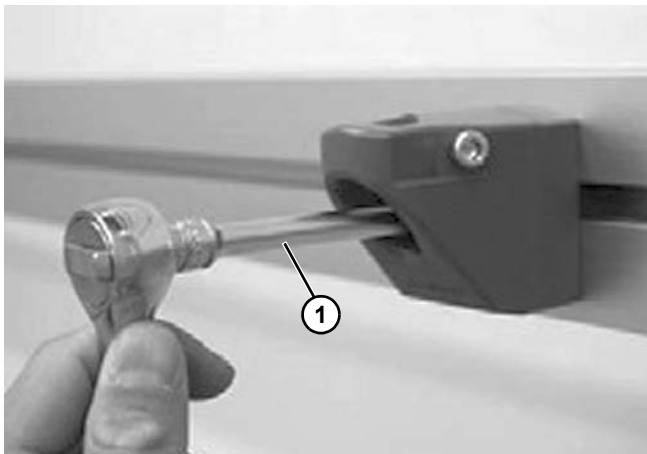

Figure 98
2. Attach the bracket onto conveyor beam and tighten with a socket wrench (**Figure 98, item 1**).